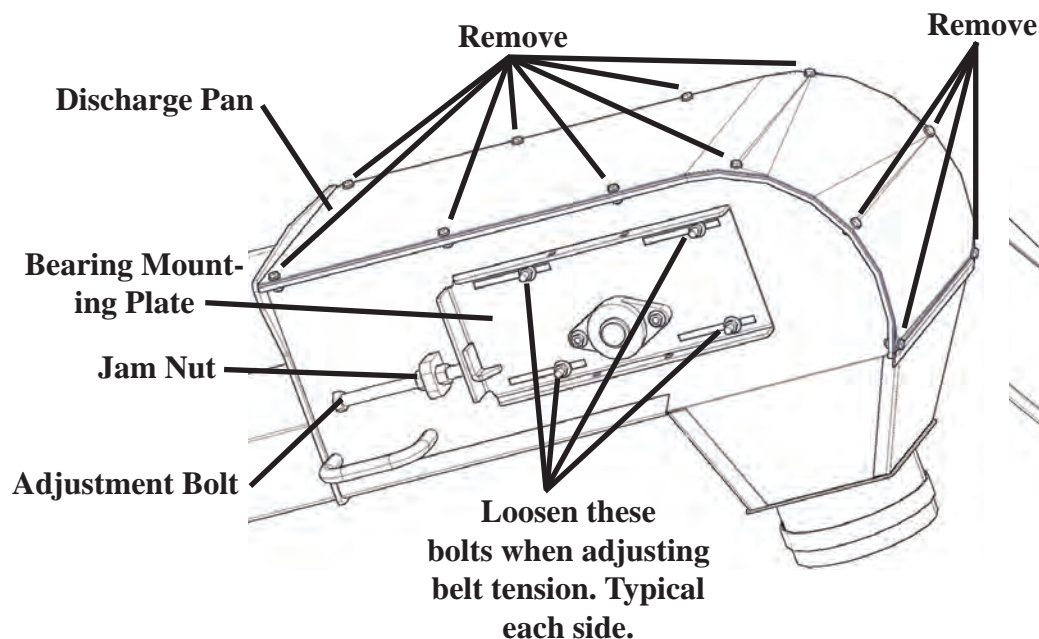

Figure 2.3
1. Remove the 12 bolts located at the discharge end (Figure 2.3).
1. Remove the head pan and head pan gasket (Figure 2.3).
2. Loosen (Do Not Remove) the 4 bolts on the two bearing mounting plates located at the discharge end of the conveyor (Figure 2.3).
3. Loosen jam nut on adjustment bolt at discharge end (Figure 2.3).